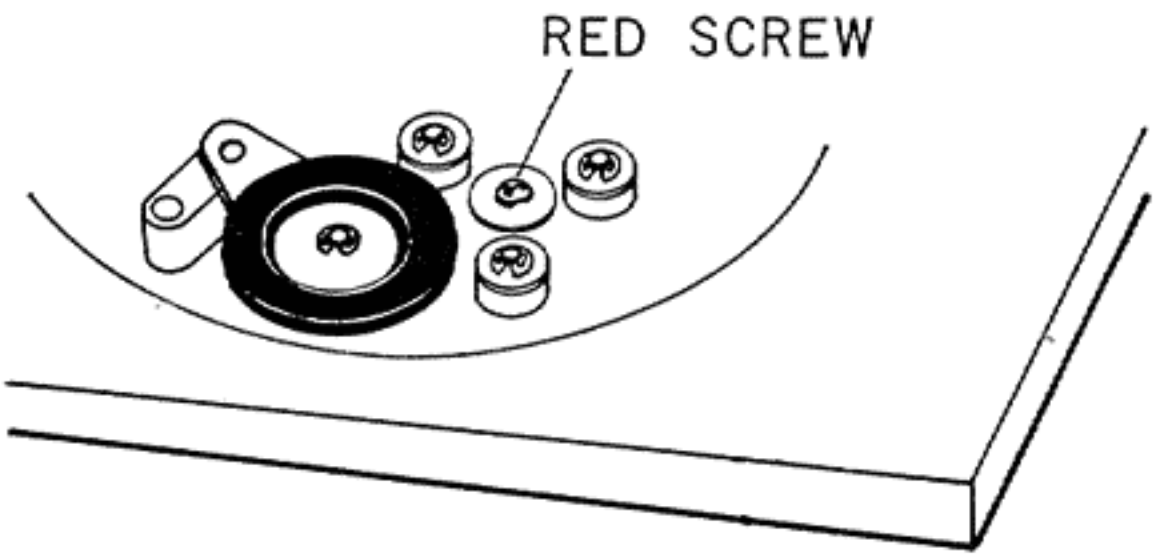

Fig. 4
- c. Remove the screw marked red which fixes the Phono Motor. Check to see if it is correctly floating (Fig. 4)